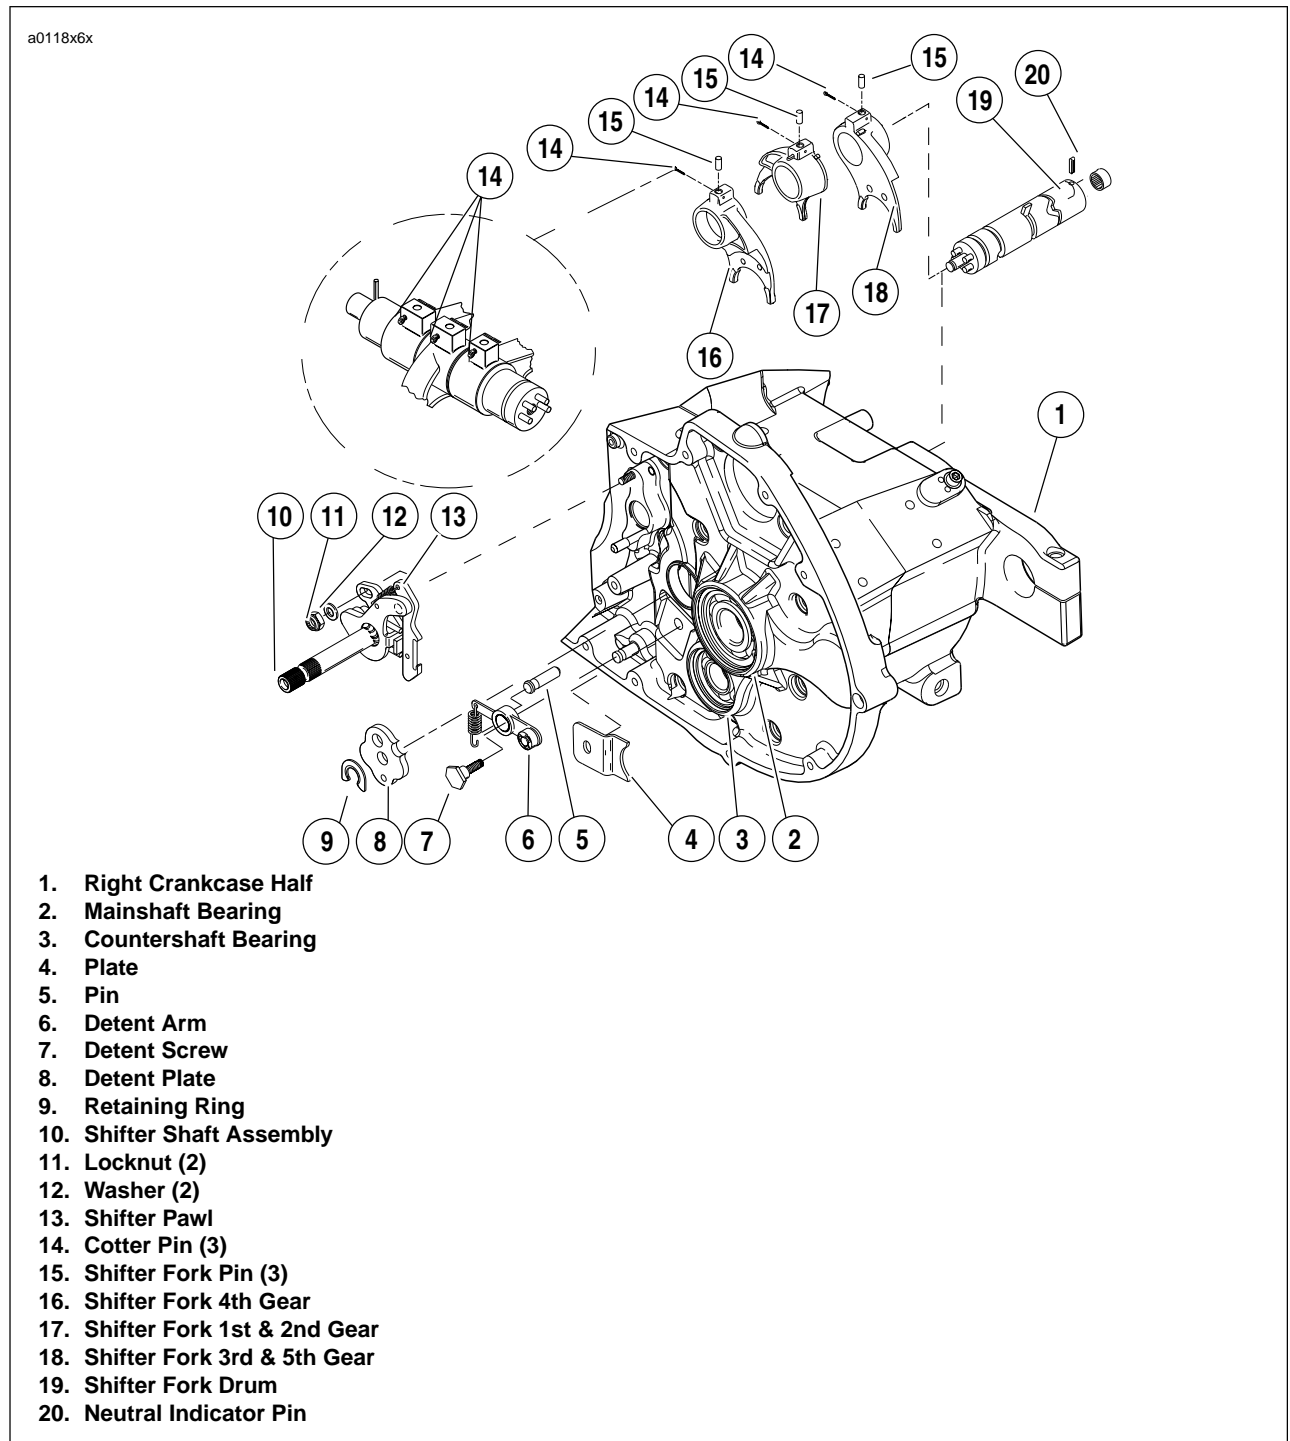

Figure 6-38. Shifter Mechanism
1. See Figure 6-38. Remove and discard the three fork cotter pins (14).
2. Remove three shifter fork pins (15). A small magnet is useful in freeing the fork pins.
3. Slide shifter fork drum (19) away through shifter forks. The neutral indicator pin (20) prevents removal in the other direction.